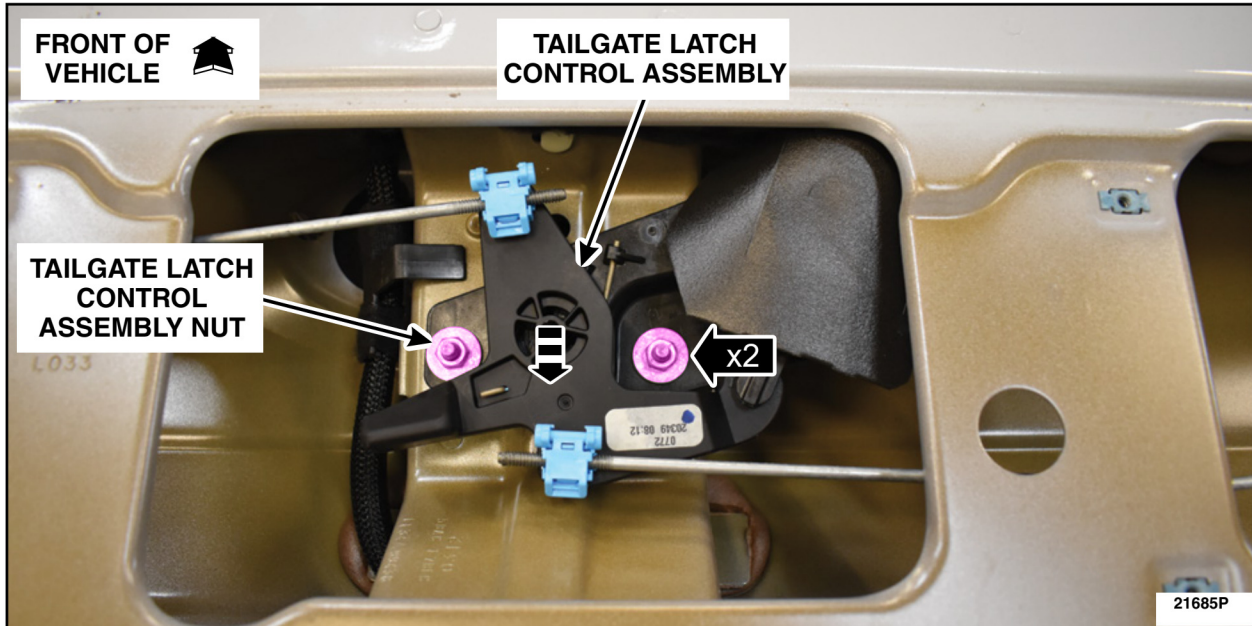

FIGURE 21
25. Remove the tailgate latch control assembly nuts and position the tailgate latch control assembly towards the rear of the vehicle. See Figure 21.